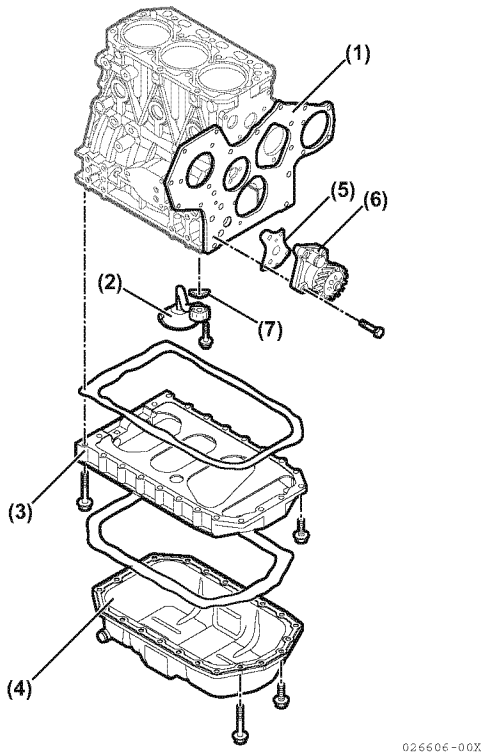

Figure 5-46
- 38. Remove the oil pan and spacer (Figure 5-46).
39. Remove the lubricating oil inlet line (Figure 5-46, (2)) and gasket (Figure 5-46, (7)).